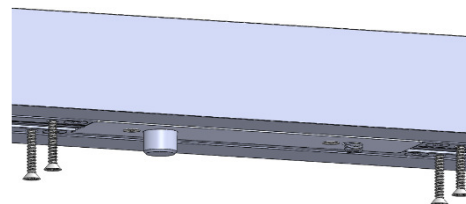

Figure 8:
3. Secure Archetype Head Pivot to header with #10 screw min. 4" long (not by Fleetwood). See Figure 8 for illustration.